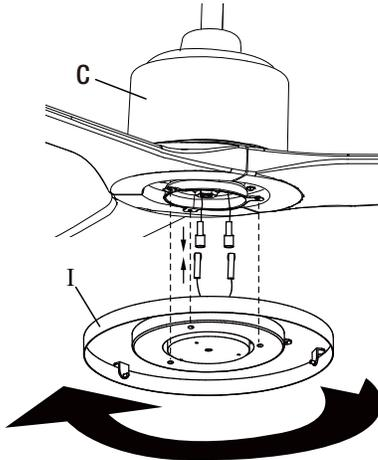

Figure 14
- Connect the blue wire from the fan to the blue wire from the light kit and the white wire from the fan to the white wire from the light kit by securely inserting the connectors together. (Figure 14)
- Carefully tuck all wires into the switch housing, and align the 3 holes on the light kit (I) to the three screws pre-installed in the switch housing. (Figure 14)